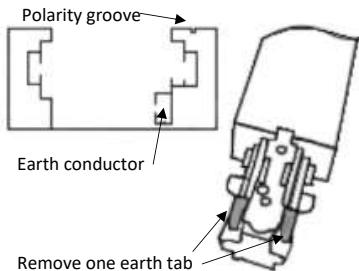

Fig. 1
- To remove the tab, grasp firmly with a pair of pliers and lever back. The tab should snap off cleanly. The side of the track with the earthing conductor has a polarity groove on top of the track to help identify which way round to insert the accessories (see Fig. 1)